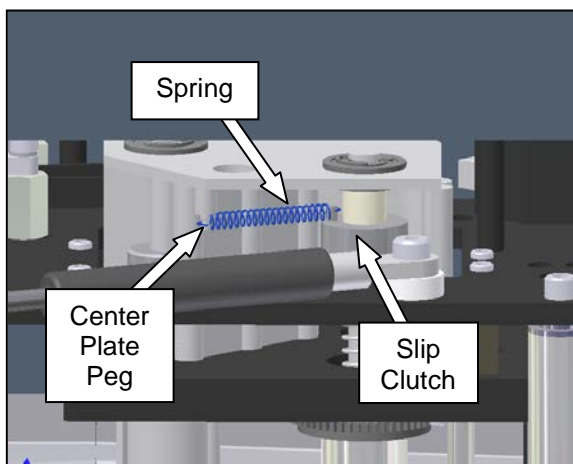

Figure 3-260. Supply Hub Slip Clutch Spring
2. Open the cradle cover, and locate the supply hub slip clutch spring. Check to ensure both ends of the spring are attached; one end on the center plate peg and one on the slip clutch. (as Shown in Figure 3-260).